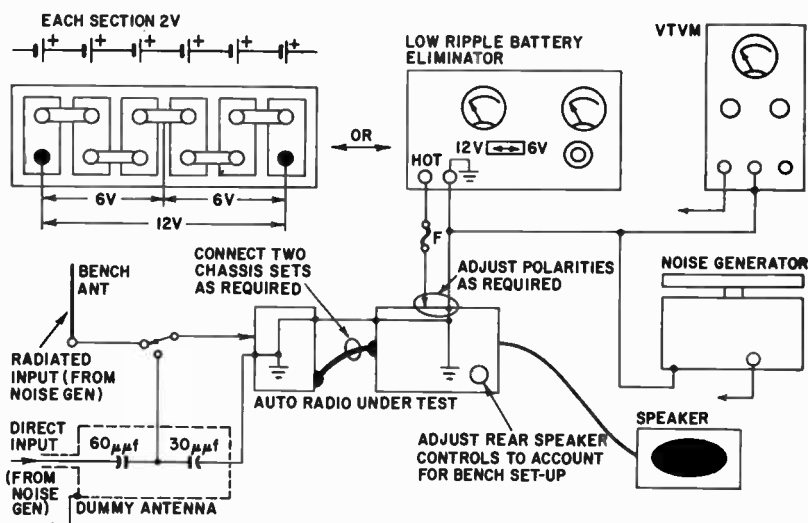

Fig. 510. Bench setup for servicing auto radios.
The bench servicing setup for auto radios is shown in Fig. 510. It is important that each of the items in the check list that follows be accomplished before proceeding.
7. Connect an antenna or dummy antenna (see Fig. 510) to the antenna input terminal.